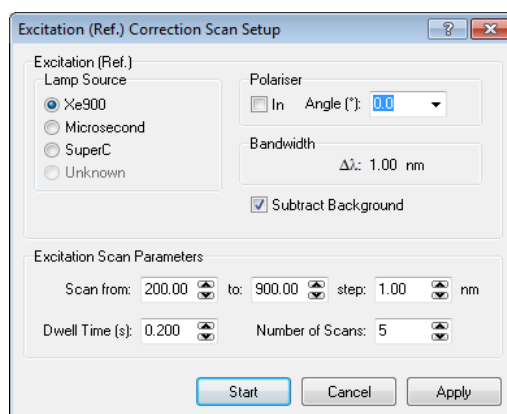

Figure 4-5: Excitation Correction setup dialogue box
2. Close the Signal Rate dialogue box and open the dialogue screen **Correction Scan >> Excitation...** Upon opening this dialogue box all scan parameters of the last excitation scan will be shown as default, apart from those that have been changed in the Signal Rate dialogue since the last correction scan. The Correction Scan Parameters in the lower section of the dialogue box may be changed now. Typical scan parameters for a standard visible grating and Xe900 are shown in Figure 4-5.